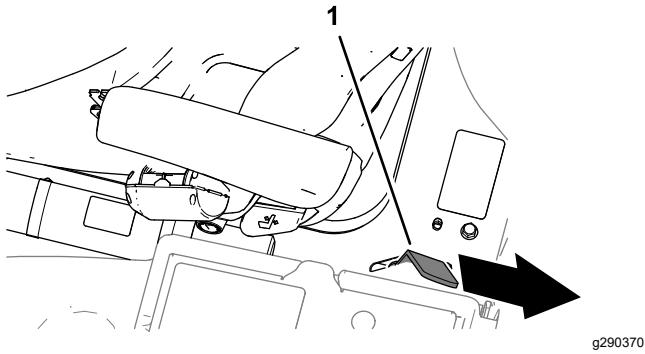

Figure 55
- Fully lower the platform and move the platform-latch handle toward the rear of the machine until the latch hooks fully engage the locking bar (Figure 55).